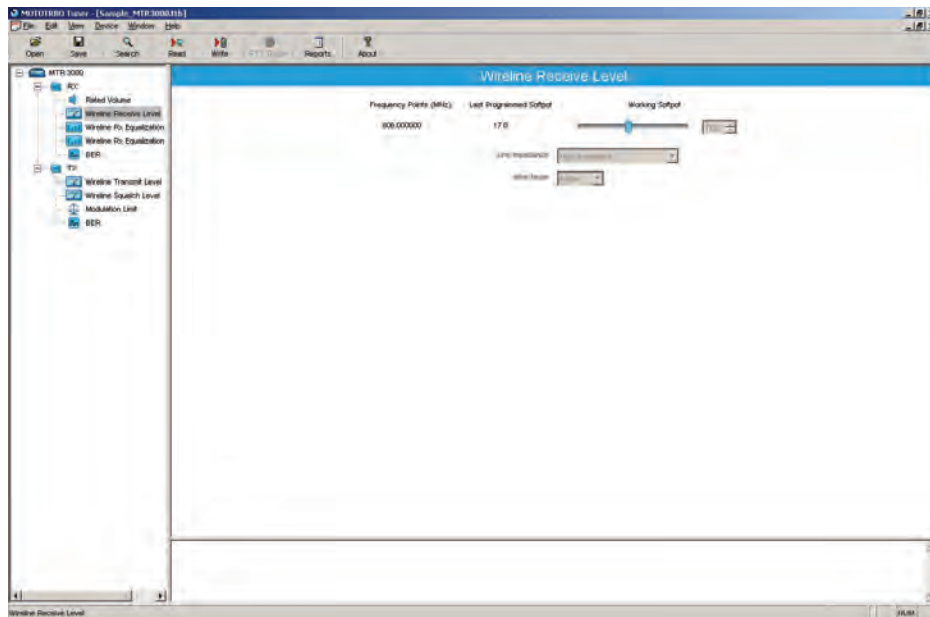

Figure 13-6 Rx Menu tree (Wireline Receive Level)
4. Select "Wireline Receive Level" under the Rx menu in the tree view (Refer to Figure 13-6).